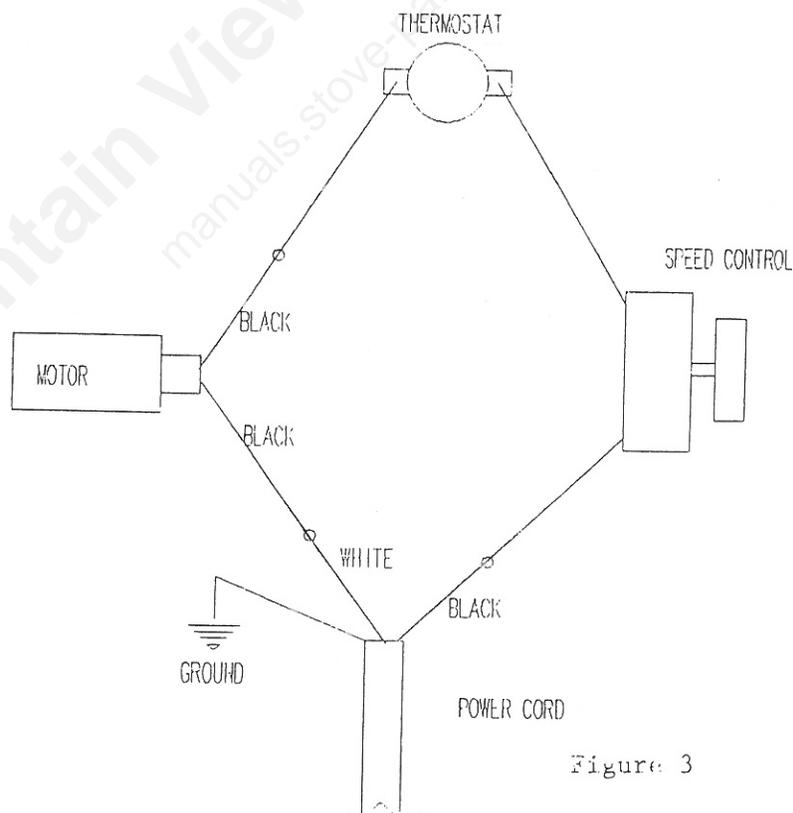

Figure 3
D) WIRING - ROOM AIR BLOWER (See Figure 3)